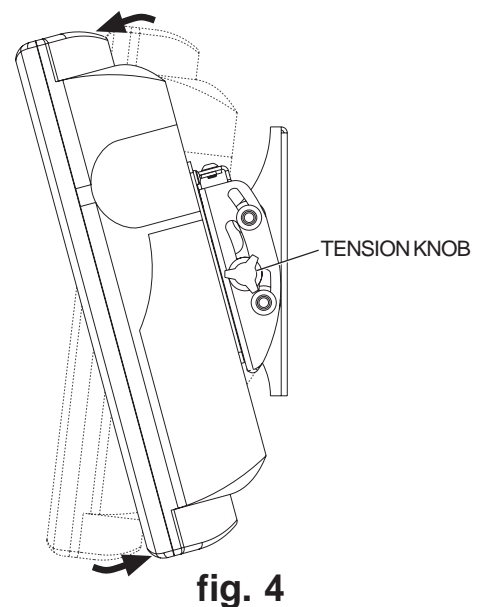

fig. 4
- 4** Adjust tension knob on right side of mount shown in figure 4 to desired tension to balance your screen size and weight.
Push or pull from top or bottom of screen to adjust tilt as shown in figure 4. The tilt can be adjusted to a maximum of 15° forward or 5° backward.